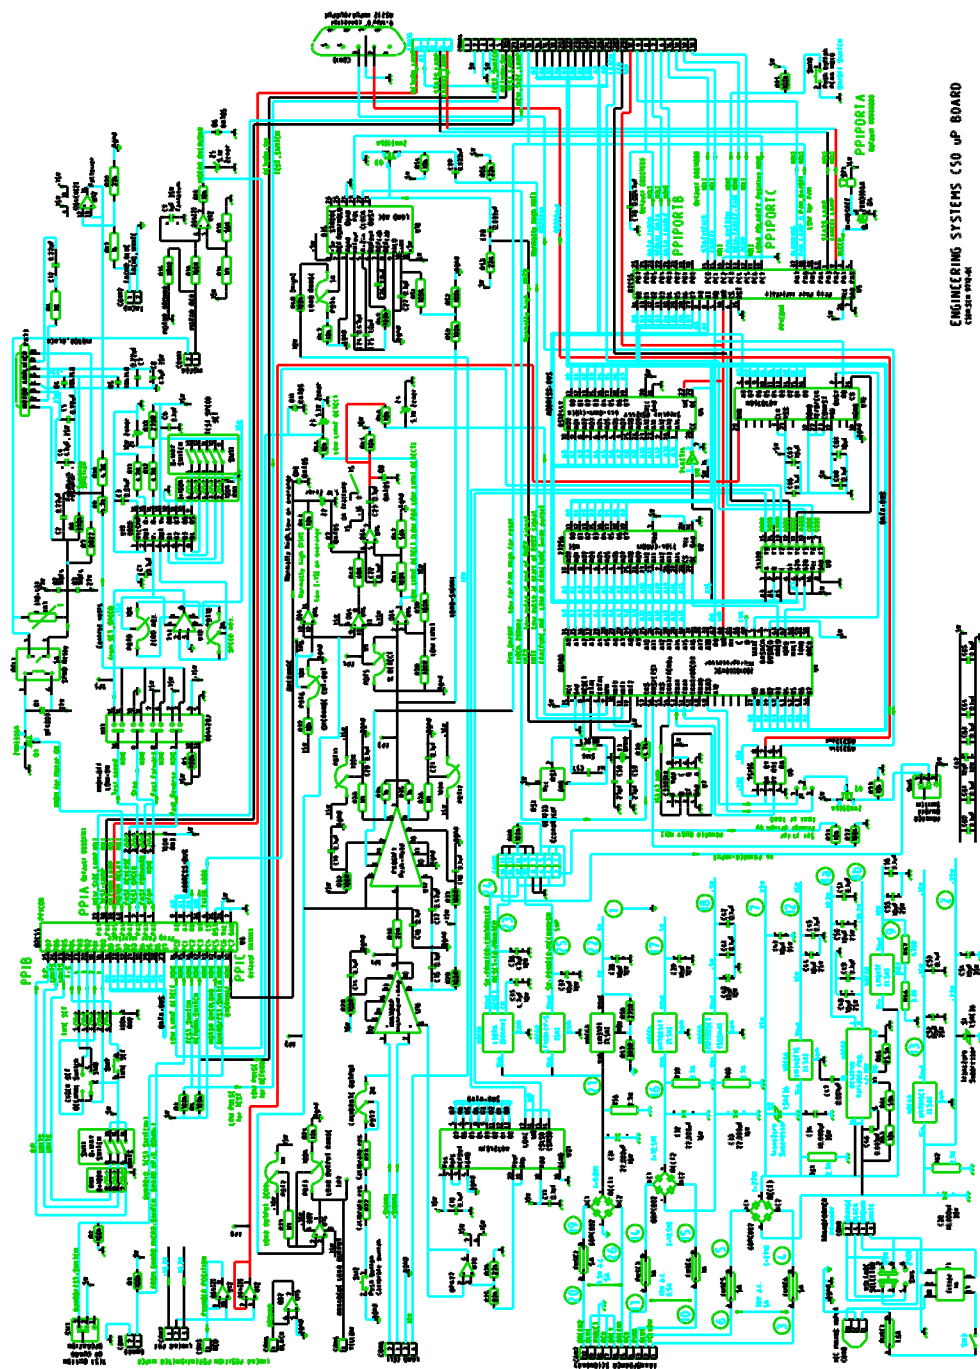

Figure 10
7.14 POWER SUPPLY - Check the voltages. Are the correct voltages being supplied to, and being supplied by, the power supply board? A voltmeter will be needed to check this. The wiring diagram and figure 10 give the a.c. input and d.c. output voltages which should appear on part of the main board. Cure - replace the main board or the toroidal transformer